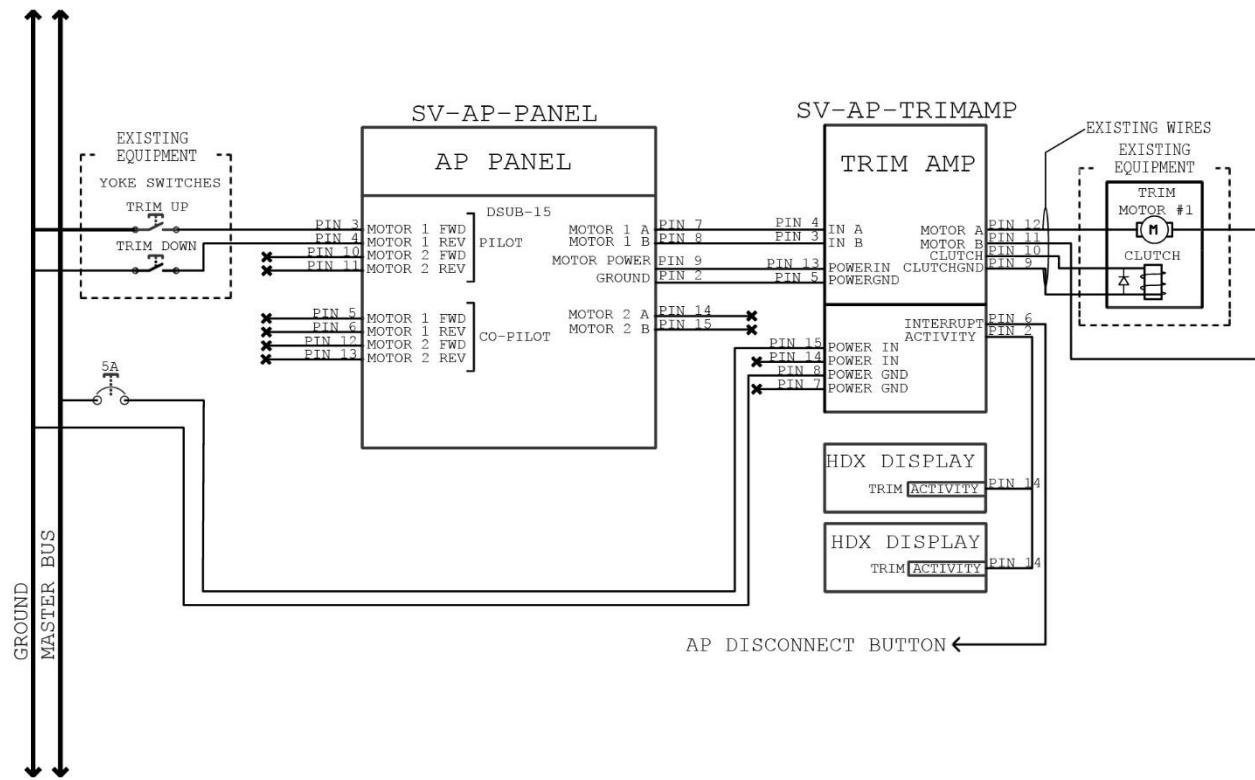

Figure 226 – SV-AP-TRIMAMP Electrical Installation for Motor 1 (Motor 2 Similar)
3. Route SV-AP-TRIMAMP harness as follows (also see Figure 226):
5. Use insulated connectors to connect SV-AP-TRIMAMP harness as follows (also see Figure 226):